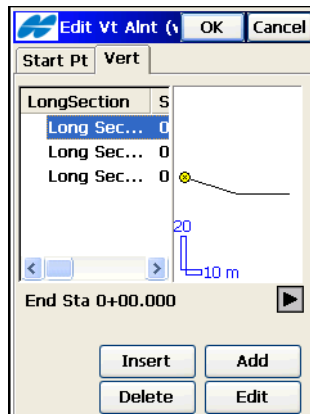

Figure 7-16. Add Vertical Alignment – Vert Tab
5. On the *Vert* tab of the **Edit Vt Alnt** screen (Figure 7-16 on page 7-15), add the vertical alignment elements, or long sections (for the Long Section vertical alignment type).